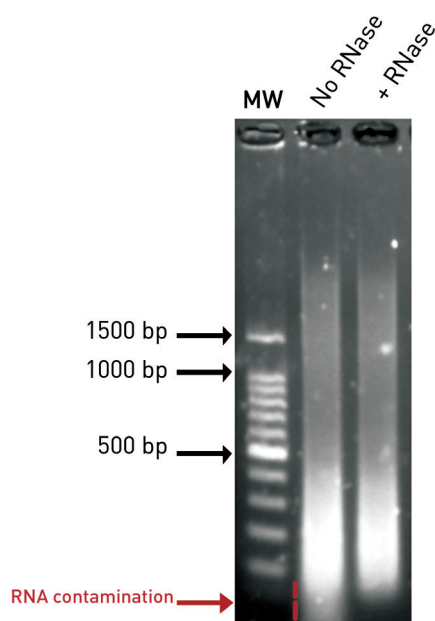

Figure 7: Improved agarose gel chromatin visual assessment with RNase treatment
- Treating samples with RNase prior to agarose gel analysis can also significantly improve visual assessment of shearing (Figure 7). Also, it has to be noted that the dye used in the High Sensitivity DNA chips (e.g. for Bioanalyzer 2100) while being specific for DNA can also stain RNA, especially at higher RNA concentrations. Therefore, it is better to include RNase cocktail treatment in order to drastically reduce backgrounds caused by RNA.